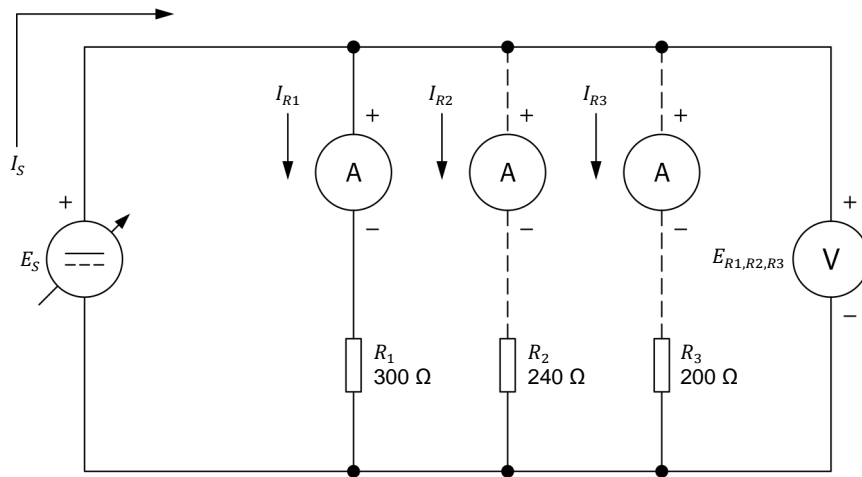

Figure 31. Circuit made of resistors connected in parallel.
13. Set up the circuit shown in Figure 31. To obtain the resistor arrangement of Figure 31, make the necessary connections and switch settings on the **Resistive Load** module.
Set a multimeter to measure dc current and connect it in series with resistor  $R_1$ , as Figure 31 shows.
Set a multimeter to measure dc voltage and connect it across the three resistors, as Figure 31 shows.
The ammeter symbol is dashed for  $I_{R2}$  and  $I_{R3}$  in Figure 31. This occurs because the ammeter (A) will be moved in the other circuit branches to measure currents  $I_{R2}$  and  $I_{R3}$ . Close the branches of resistors  $R_2$  and  $R_3$  for now, using a connection lead, in order to have the three resistors connected in parallel.
14. Calculate the equivalent resistance  $R_{Eq.}$  of the parallel resistors in Figure 31. Then, calculate the source current  $I_S$  based on the equivalent resistance  $R_{Eq.}$  and the source voltage  $E_S$  of 50 V.
18. Turn the internal power source off. Disconnect the ammeter from resistor  $R_1$  and connect it in series with resistor  $R_2$ , as Figure 31 shows. Make sure to keep the three resistors connected in parallel.
19. Turn the internal power source off. Disconnect the ammeter from resistor  $R_2$  and connect it in series with resistor  $R_3$ , as Figure 31 shows. Make sure to keep the three resistors connected in parallel.